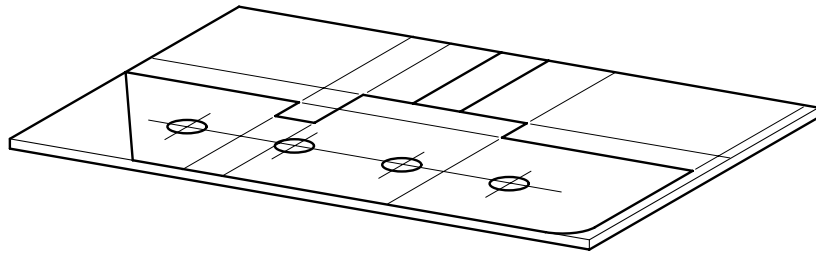

Fig. 3
- 6 Name **two** tools that would be used when marking out the shape shown in Fig. 3, on acrylic. [2]